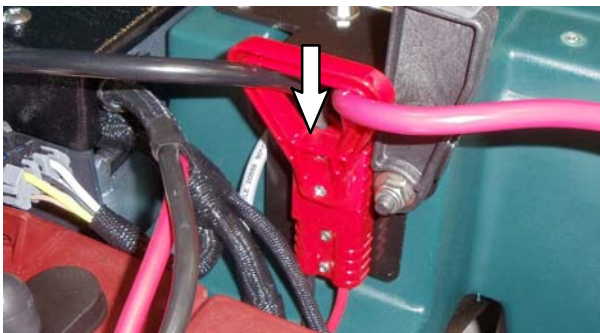

FIG. 35
- a. Attach battery connector to battery charger connector (FIG. 35).